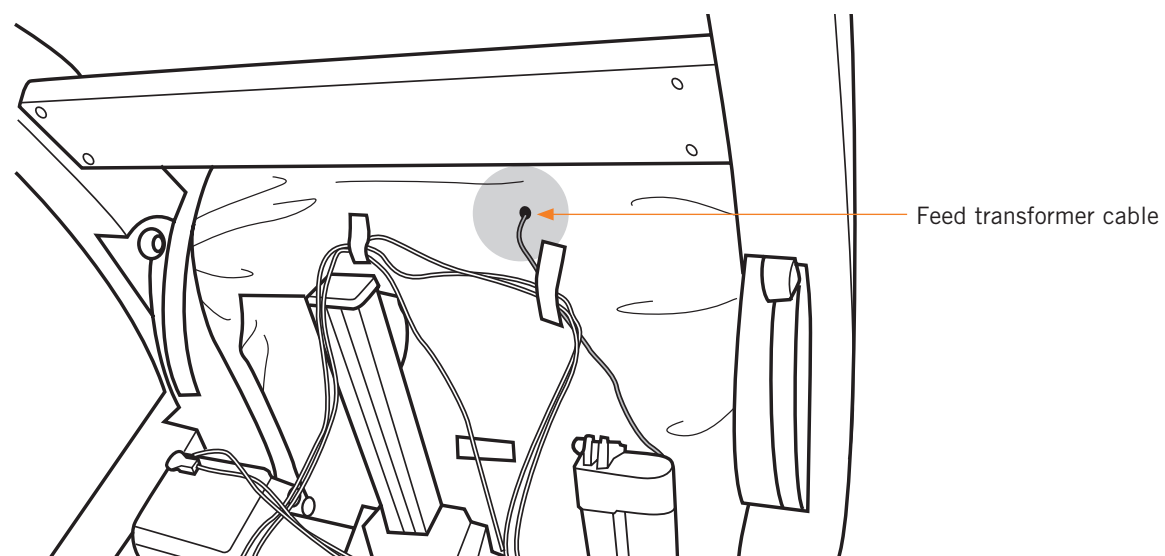

Fig.14
7. Feed the transformer cable up through the cable guide then up through the hole in the chair canvas (Fig.14).